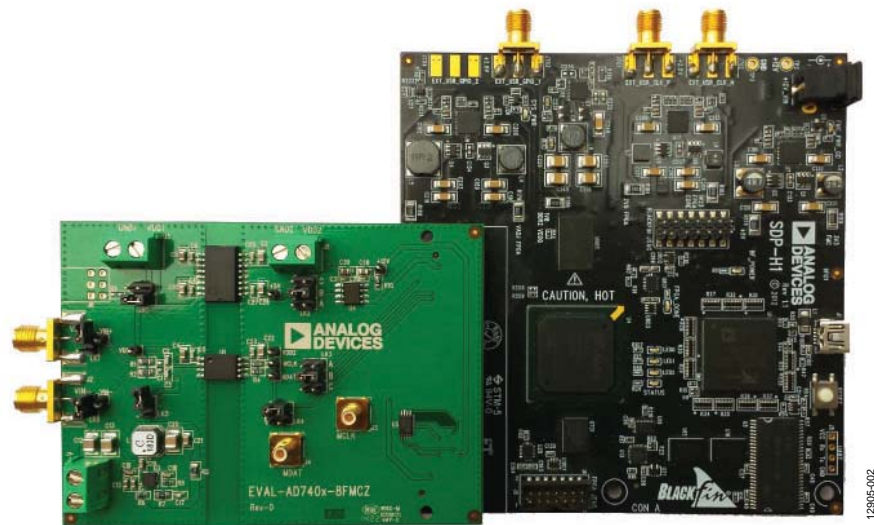

Figure 2. EVAL-AD7402-8FMCZ Evaluation Board (Left) Connected to the EVAL-SDP-CH1Z Board (Right)
3. Connect the EVAL-SDP-CH1Z board to the evaluation board as shown in Figure 2.
The EVAL-AD7402-8FMCZ connects to the EVAL-SDP-CH1Z system demonstration platform. The EVAL-SDP-CH1Z board is the controller board, which is the communication link between the PC and the main evaluation board. Figure 2 shows a photograph of the connections between the EVAL-AD7402-8FMCZ daughter board and the EVAL-SDP-CH1Z controller board.